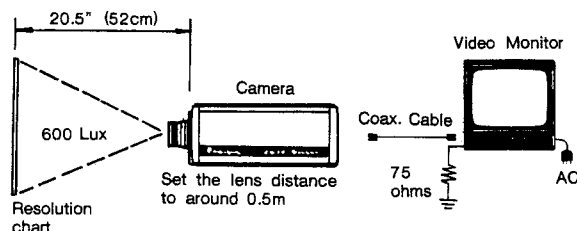

Fig. 5
- Position the resolution chart (YVW1400RB99) in front of the camera as shown in Fig. 5.
- Set the distance between the camera and chart to 20.5 inch (52cm) as shown in Fig. 5.